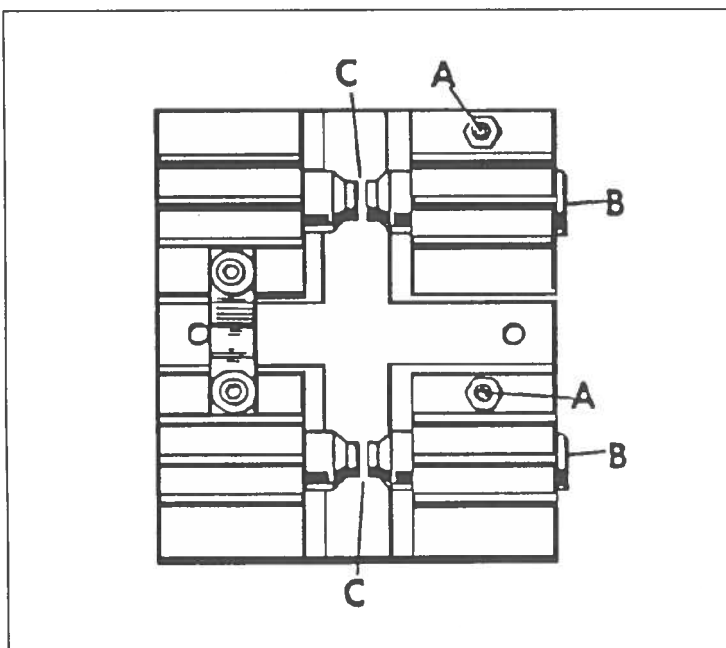

Fig. 5 Spark gap adjustment
3. Spark gap adjustment (Fig. 5)